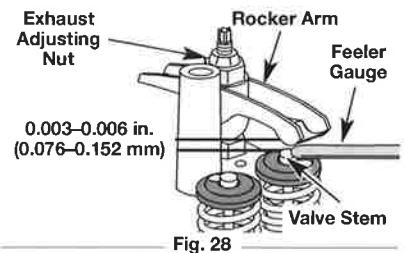

Fig. 28
7. Slide the feeler gauge between the rocker arm and the valve return spring. Measure the clearance between the valve stem and rocker arm (Fig. 28). Measure both the intake and exhaust valves.
- a. Turn the adjusting nut using a 5/16 inch (8 mm) wrench or nut driver (Fig. 28).